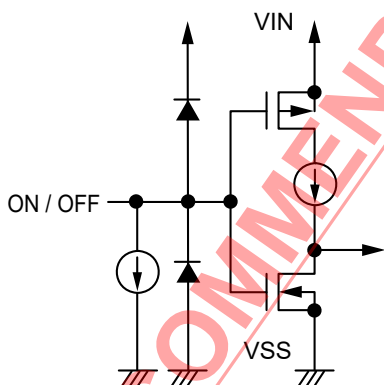
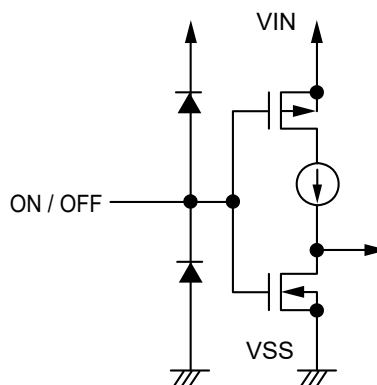

Figure 17 S-1315 Series A / C type
Figure 18 S-1315 Series B / D type
Note that the current consumption increases when a voltage of 0.25 V to 1.0 V is applied to the ON / OFF pin. The ON / OFF pin is configured as shown in **Figure 17** and **Figure 18**.
*1. Note that the IC's current consumption increases as much as current flows into the constant current when the ON / OFF pin is connected to the VIN pin and the S-1315 Series A / C type is operating (refer to **Figure 17**).